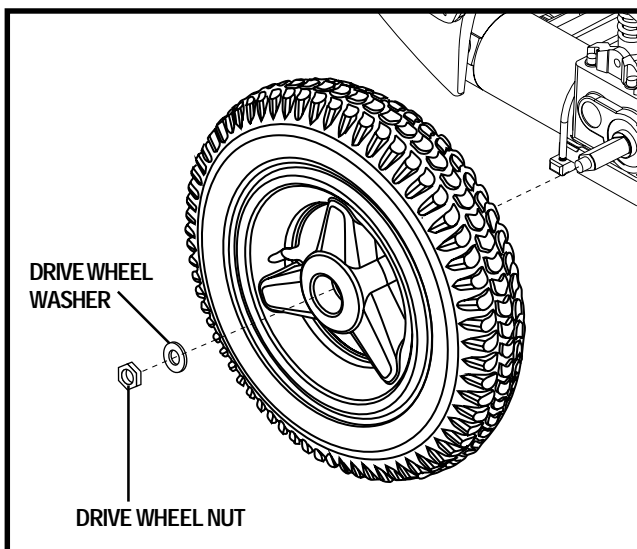

Figure 29. Drive Wheel Removal
2. Use a socket spanner to remove the drive wheel nut and washer from the axle. See figure 29.